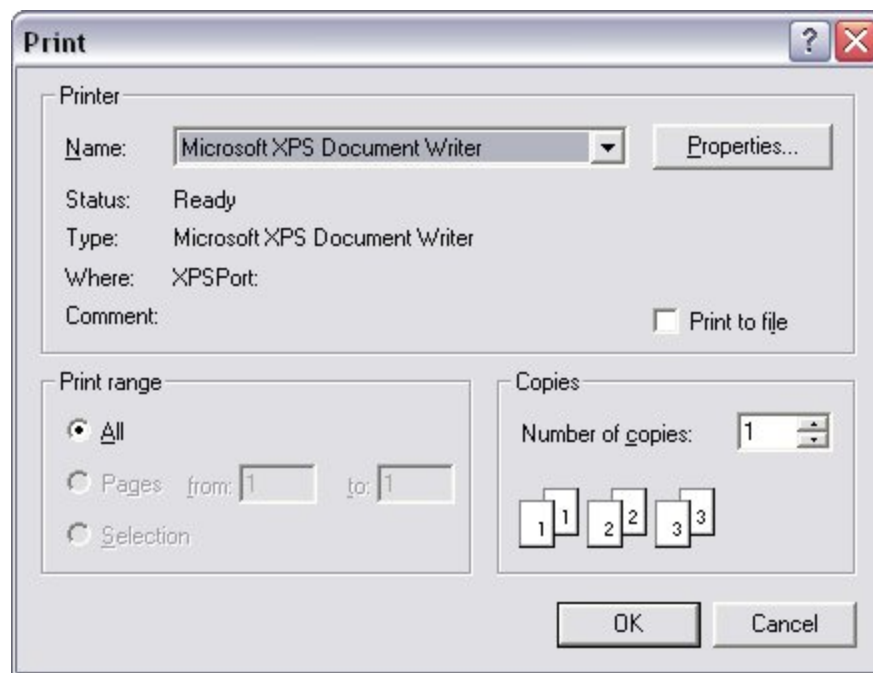

Figure 78 : Printing window
6. The *Printing* window is displayed (Figure 78).